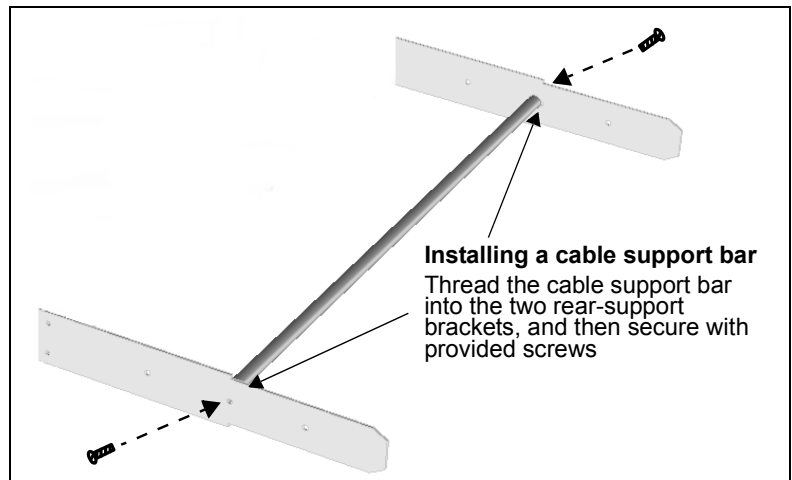

Figure 2-2. Installing a Cable Support Bar
2. Thread the cable support bar into each rear-support bracket, and then secure with the provided screws. See Figure 2-2.